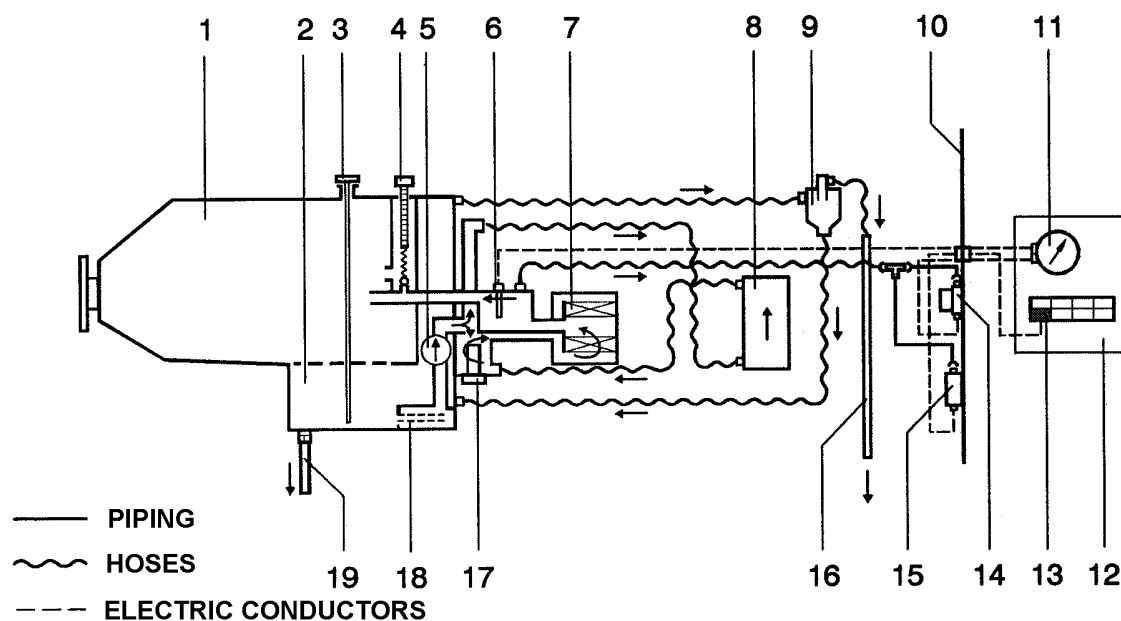

Fig. 7-13 Functional Diagram of Oil System
The oil charge is contained in the engine crankcase (Fig. 7-13). The oil quantity in the engine crankcase-tub is checked by means of an oil stick gauge (3) - the maximum filling is 11,4 litres (12 quarts). Oil is transported by the pump (5) to the lubricated parts of the engine via double flow oil filter (7). When the oil temperature reaches approximately 85°C, the thermo-static valve (17) closes the direct oil flow through the filter, whereupon oil starts to flow through the oil cooler (8) and is returned back into the tub through the filter. The oil pressure is controlled by means of a pressure reduction valve (4). The crankcase is vented into the atmosphere via an oil separator (9), from the separator oil is returned into the engine through the hose.